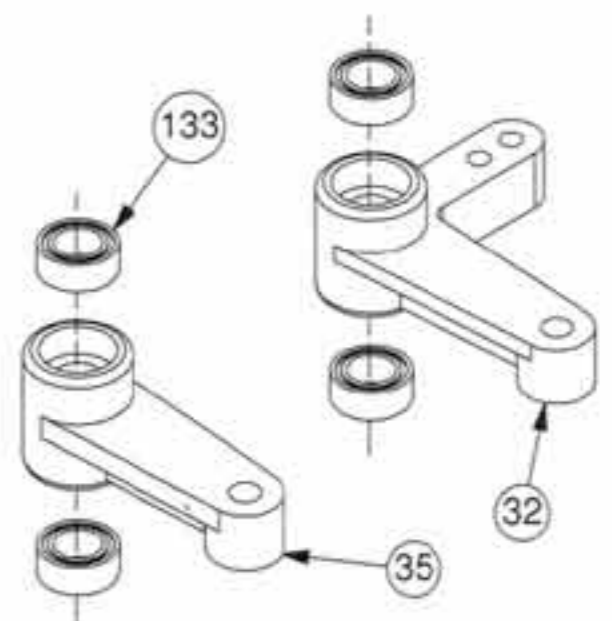

Figure 11A
❑ Step 6. Place the bellcrank (32) and idler arm (35) over the steering posts (30) as shown. **If you are assembling a Graphite Plus kit**, you must first install two 3/16" x 5/16" bearings (133) – one in the top, one in the bottom – into the bellcrank (32) and the idler arm (35) as shown in Figure 11A.